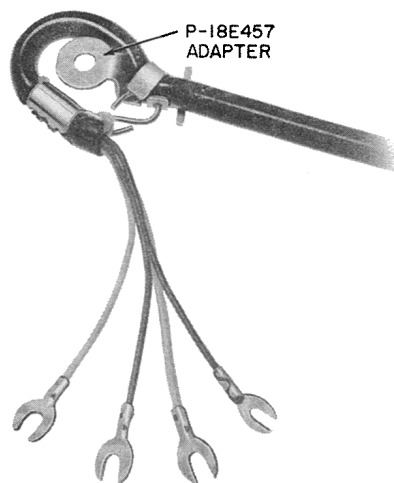

Fig. 33 — D4BP Cord with Adapter
- (1) Remove P-18E457 adapter from cord (Fig. 33).